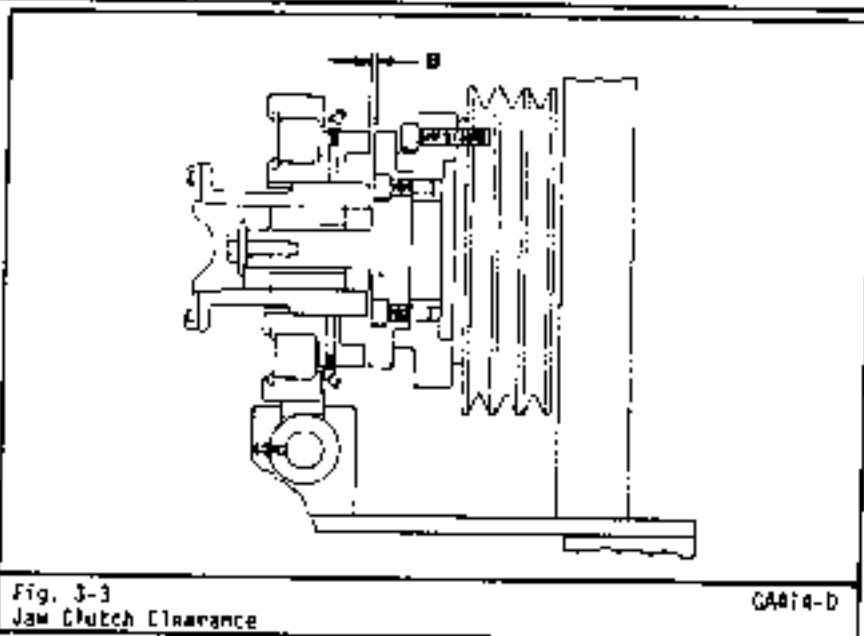

Fig. 3-3
- With handle pushed all the way in, adjust clevis on cable (A) for  $1/8" \pm 1/32"$  ( $3.2 \pm .8\text{mm}$ ) clearance between jaw teeth as shown in Fig. 3-3 at (B).